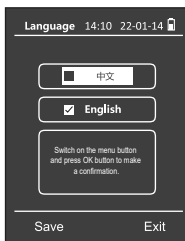

fig.23
**e. Language:** Set Chinese or English as displayed language (fig.23).